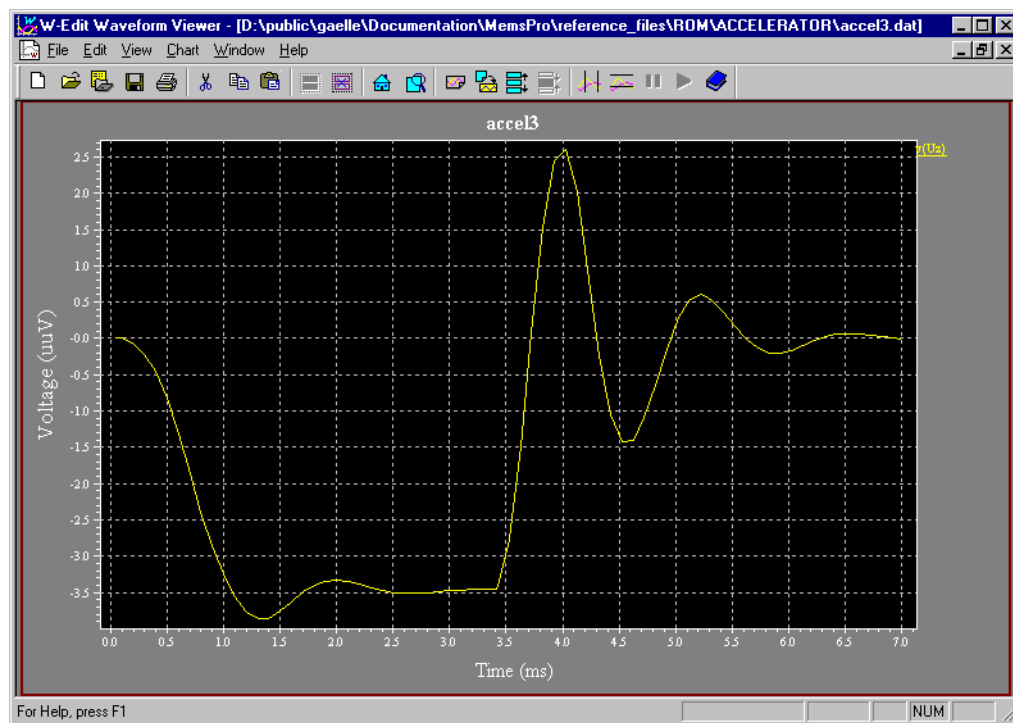

Figure 70: Viewing the results of the Uz simulation
- ☑ Then, select **Chart > Expand Chart** to obtain an expanded view of the chart (Figure 70).